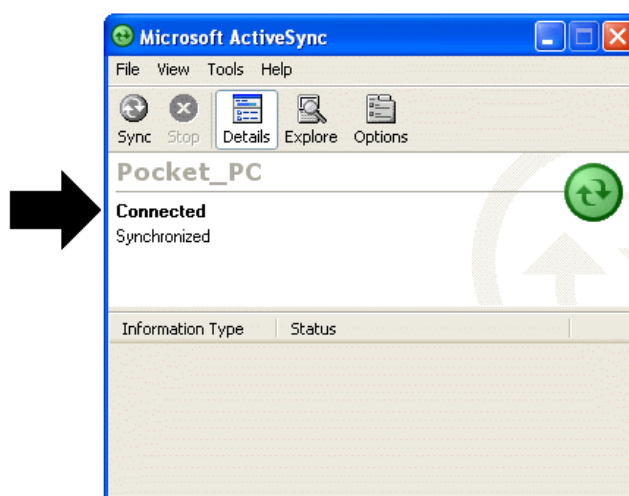

Figure 82. Connection Established.
- 4) Continue with installation as directed. At the end of the wizard, the ActiveSync dialog will indicate the Detective-EX computer is **Connected** (Fig. 82). If ActiveSync cannot connect to the Detective-EX, see the troubleshooting steps in Section 7.10.